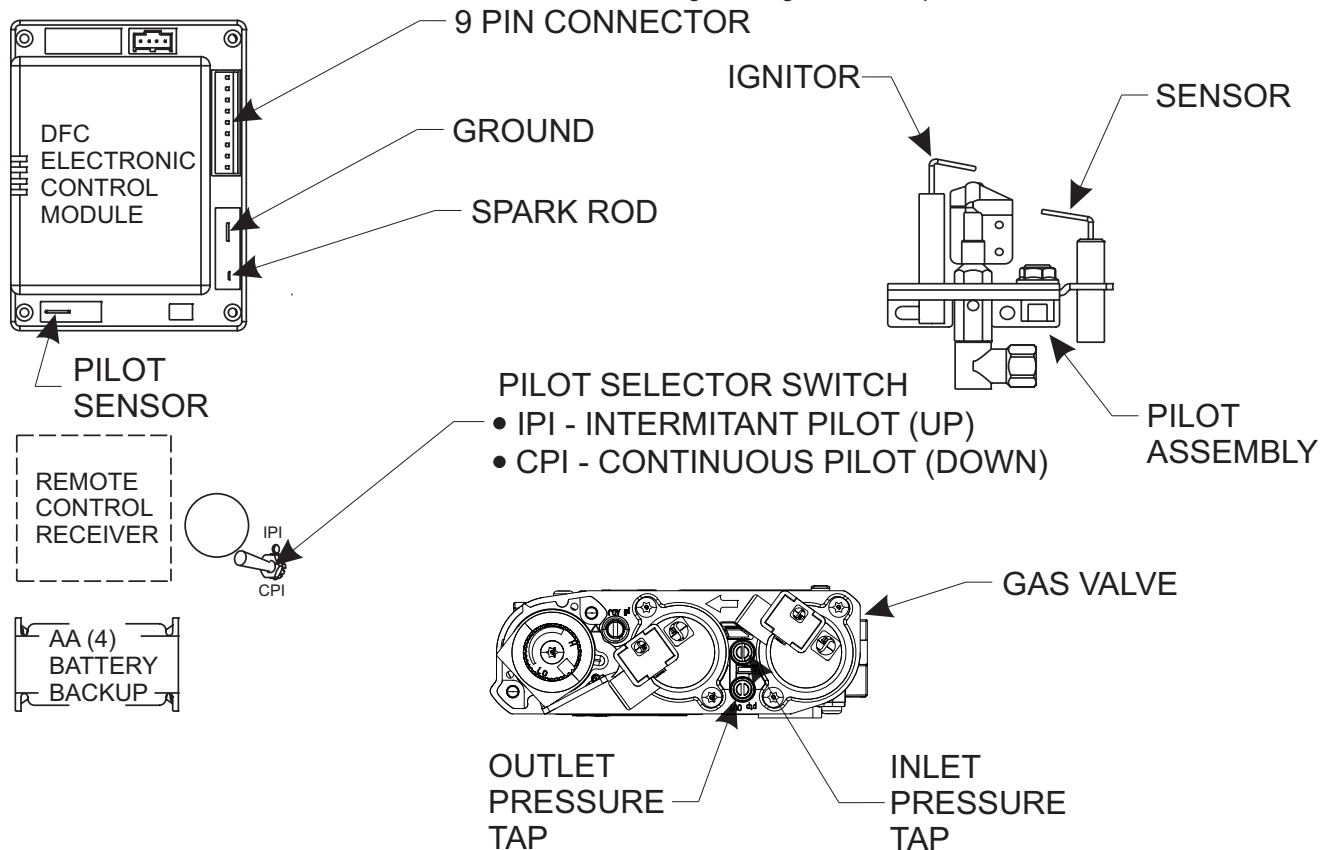

Figure 33
NOTE: A small toggle switch is located on a bracket that is used to switch from IPI (upward position) to the CPI (downward position). See Figure 33.
3. The gas valve has inlet and outlet pressure taps as shown in Figure 33. Refer to pages 18 and 19 for gas pressure requirements.
NOTE: The gas control has a manual HI/LO flame adjustment knob (regulator) that allows you to increase or decrease the height of the burner flame. See Figure 33. Rotate the HI/LO knob counterclockwise to "HI" to increase the flame height, and clockwise to "LO" to decrease the flame height.